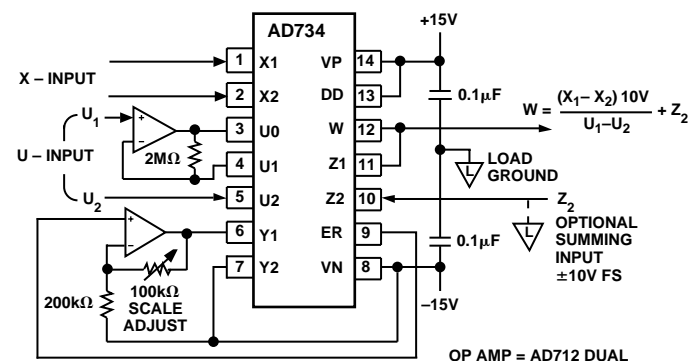

Figure 12. Two-Quadrant Divider with Fixed 10 V Scaling
The output ER may also be buffered, re-scaled and used as a general-purpose reference voltage. It is generated with respect to the negative supply line Pin 8 (VN), but this is acceptable when driving one of the signal interfaces. An example is shown in Figure 12, where a fixed numerator of 10 V is generated for a divider application. There, Y2 is tied to VN but Y1 is 10 V above this; therefore the common-mode voltage at this interface is still 5 V above VN, which satisfies the internal biasing requirements (see Specifications table).
Where a numerator of 10 V is needed, to implement a two-quadrant divider with fixed scaling, the connections shown in Figure 12 may be used. The reference voltage output appearing between Pin 9 (ER) and Pin 8 (VN) is amplified and buffered by the second op amp, to impose 10 V across the Y1/Y2 input. Note that Y2 is connected to the negative supply in this application. This is permissible because the common-mode voltage is still high enough to meet the internal requirements. The transfer function is